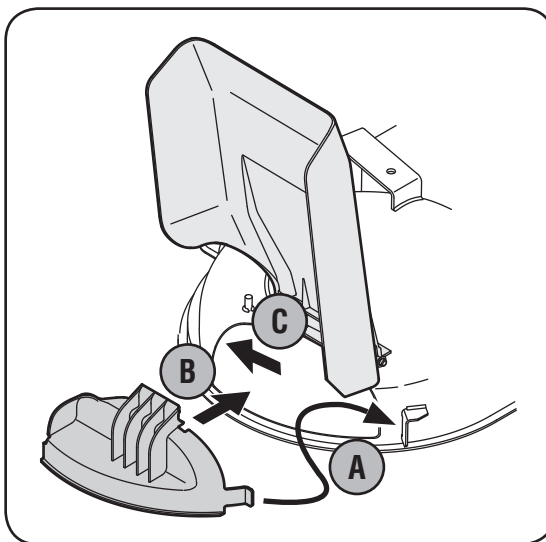

Figure 4-3
1. Insert the right-side tab (A) of the baffle into the bracket on the deck. See Figure 4-3.
Insert the mulch baffle into the discharge opening (B), See Figure 4-3.
3. Once it's positioned in the deck opening, push the baffle towards the rear of the mower (C) to secure it in place. See Figure 4-3.